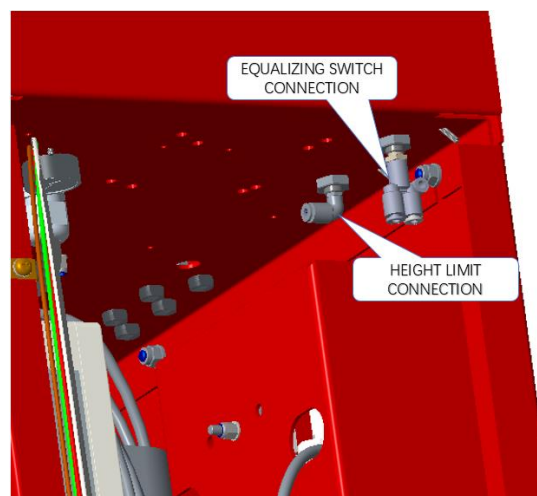

Figure 14 - Pneumatic Switch Return Line Connections (Console)
2. Route two blue Ø4mm air lines labeled with “EQ RETURN” from left side and right side base frame to console and connect them to a union ‘Y’ fitting in the console (Figure 14).
3. Route one blue Ø4mm air lines labeled with “LMT RETURN” from left side base frame to console and connect to the pressure switch fitting in the console (Figure 14).